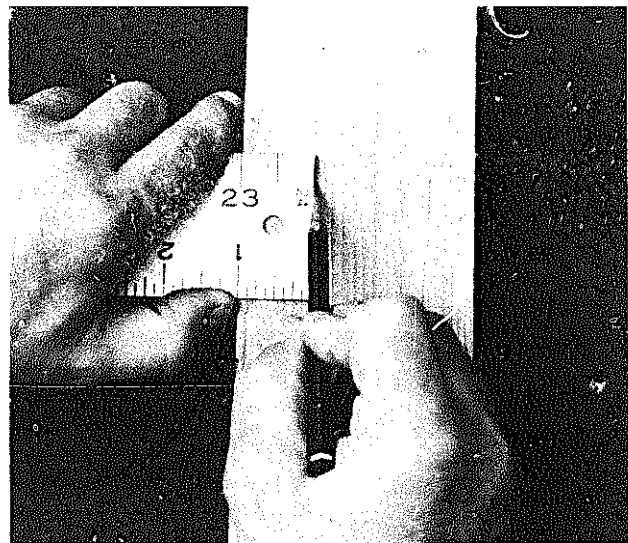

Fig. 4-18 Gauging with a rule
3. Pull the rule and pencil back using the thumbnail as a guide for gauging, as shown in figure 4-18.